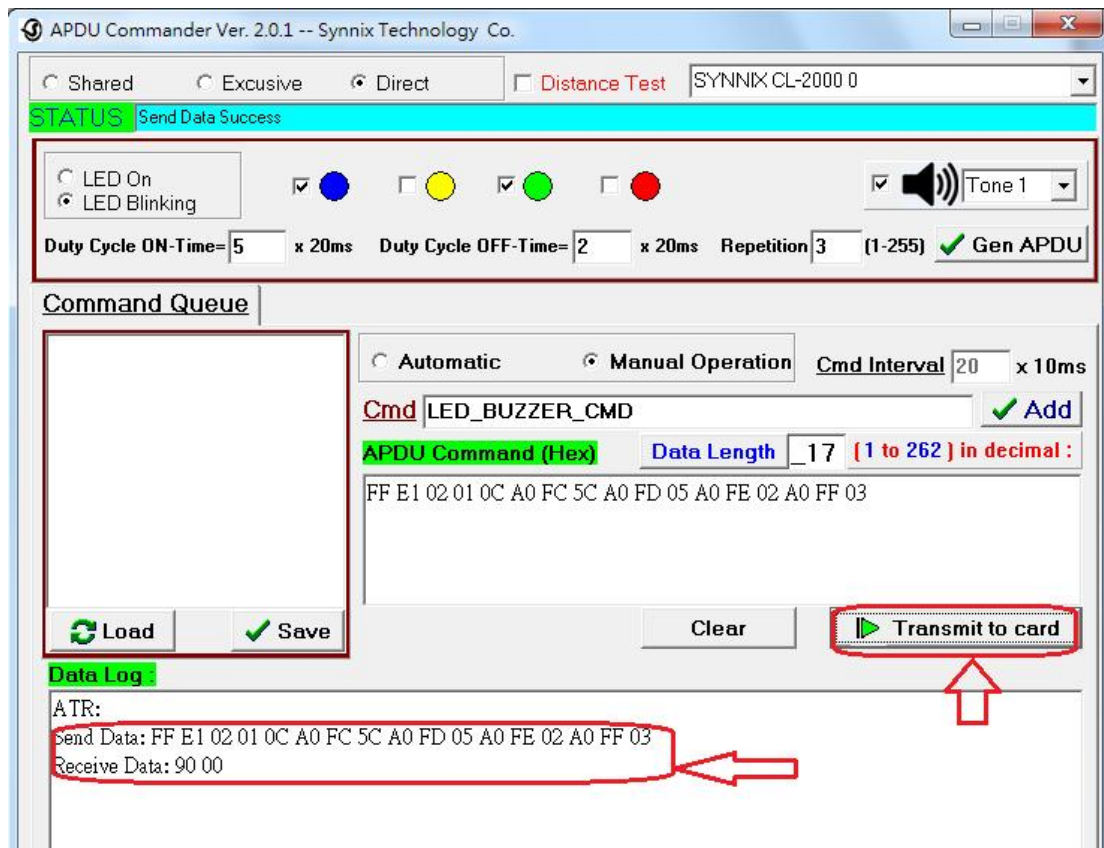

Figure 11
7. Click on "Transmit to card" button. See Figure 11.
- 5. In the " Cmd" field, Enter a friendly name for the APDU command later you would want to inputted. See Figure 11.